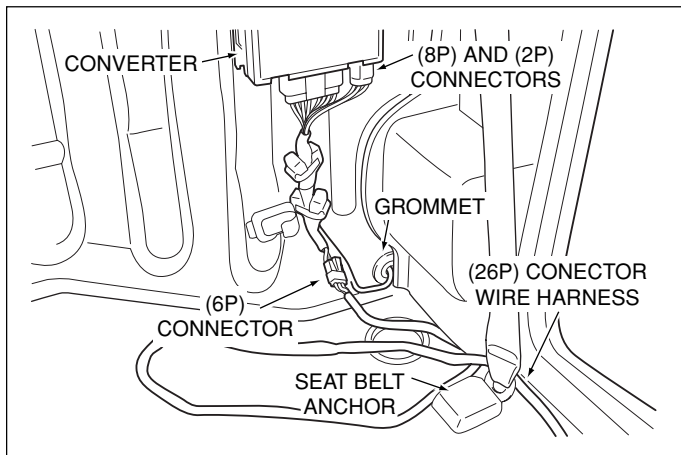

Fig. C3
- ➔ i. Connect the (8P) and (2P) connectors of the converter kit harness to the (8P) and (2P) terminals of the converter. (Fig. C3)
- ➔ ii. Connect the (6P) connector of the converter wire harness to the (6P) connector of the (26P) connector wire harness. (Fig. C3)
- ➔ iii. Route the gray (4P) wire harness through the hole in the rear cab wall and secure the grommet to the rear cab wall. (Fig. C3)
- ➔ iv. Route the (26P) connector wire harness forward, passing it between the seat belt anchor and the door pillar. (Fig. C3)